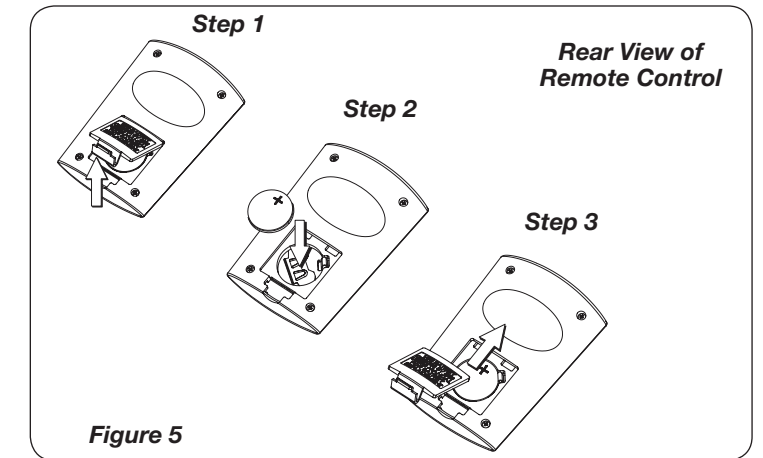

Figure 5
- Install the battery supplied as shown in *Figure 5*. The (+) side must be toward the cover.